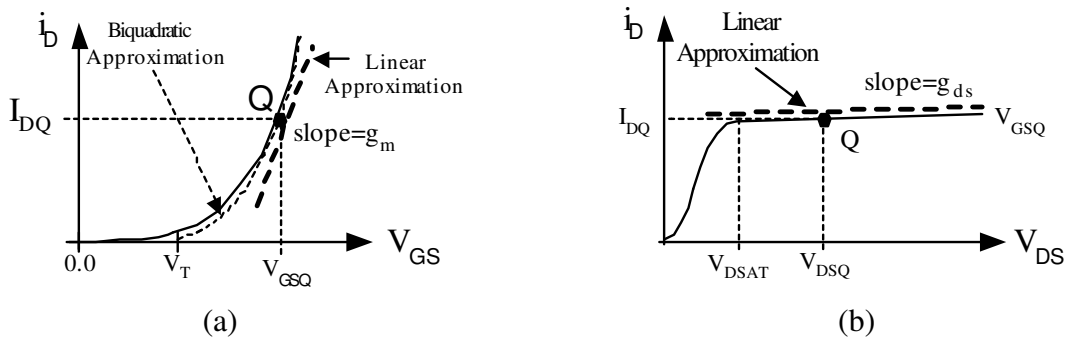

Fig.1 MOSFET characteristics: (a) input and (b) output.
The objective of this laboratory is to characterize and bias the MOSFET. A MOSFET can be characterized by two parameters; β and V_T . Fig. 1(a) shows the output and transconductance characteristics of an n-channel MOSFET and illustrates how β and V_T characterize the MOSFET. The large signal model for the MOSFET is given as follows:
For a given V_{GSQ} , the drain-source voltage can also be swept leading to the transistor's output characteristics shown in Fig. 1(b). The slope of the curve determines the transistor's output conductance, obtained as
2. To find V_T and β , sweep V_{GS} from 0 to 5V using small increments (1mV or so) with a nested sweep of V_{DS} from 3 to 5V using moderate increments (0.5V). This will generate a series of I_D - V_{GS} characteristic plots similar to the one in Fig. 1(a). Use these plots to find the approximate value for the threshold voltage V_T and β .
4. Using the same setup as in step 2, sweep V_{DS} from 0 to 5V using small increments (1mV or so) with a nested sweep of V_{GS} from 1 to 5V using moderate increments (0.5V). This will generate a series of I_D - V_{DS} characteristic plots similar to the one in Fig. 1(b). Use these plots to find an approximate value for the channel length modulation parameter λ .